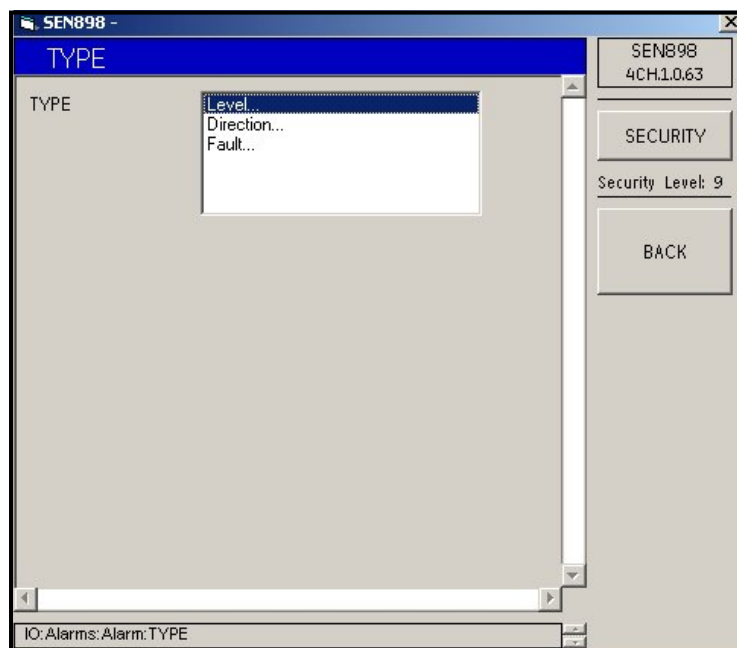

Figure 172: Alarm Type Options
16. To set up the alarm direction, from the *Alarm Type Options* menu (see Figure 172 on page 136), click twice on *Direction...* The following screen appears.